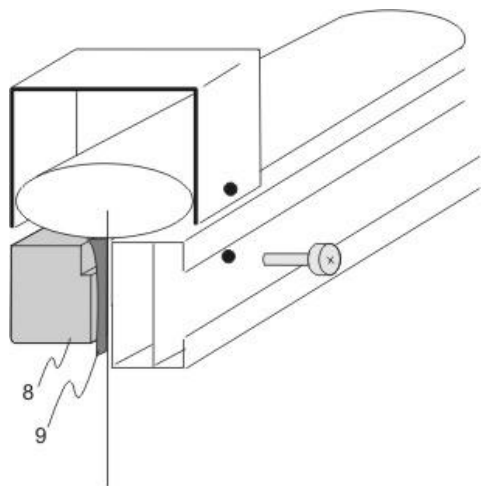

fig. 3.2
- Mount the „C“ profile on the swimming pool according to (fig. 3.2 and 3.3) by using screws M6x30.